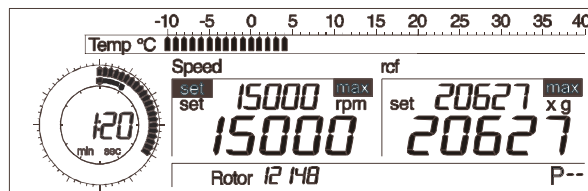

Fig. 5.14: Setting the speed
- Turn the left rotary knob until “set” appears in front of the parameter “Speed” on the display (Fig. 5.14).